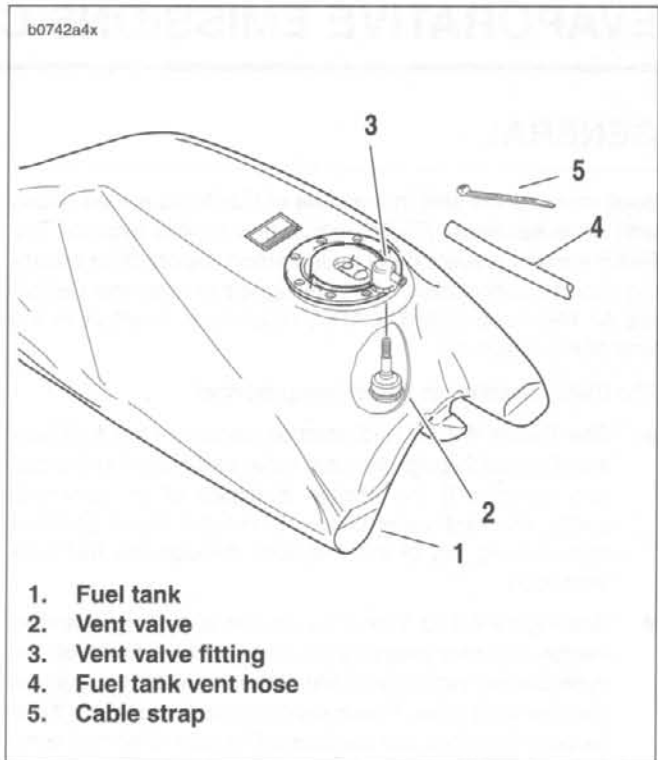

Figure 4-111. Vent Valve
7. See Figure 4-111. Connect the fuel tank vent hose (6) to vent valve fitting (5) using a new cable strap (7).